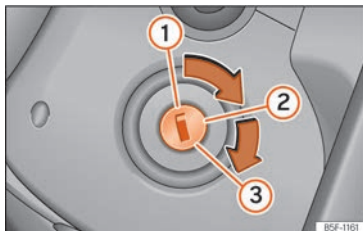

Fig. 233 Ignition key positions.
Key positions »» Fig. 233
- Turn the key to position »» Fig. 233 ②.
- Keep turning the key to position »» Fig. 233 ③ without stepping on the accelerator.
- Once the engine starts, release the key. When it is released, the key returns to position ②.
- Vehicles with ignition locks: Turn the key to position »» Fig. 233 ①.